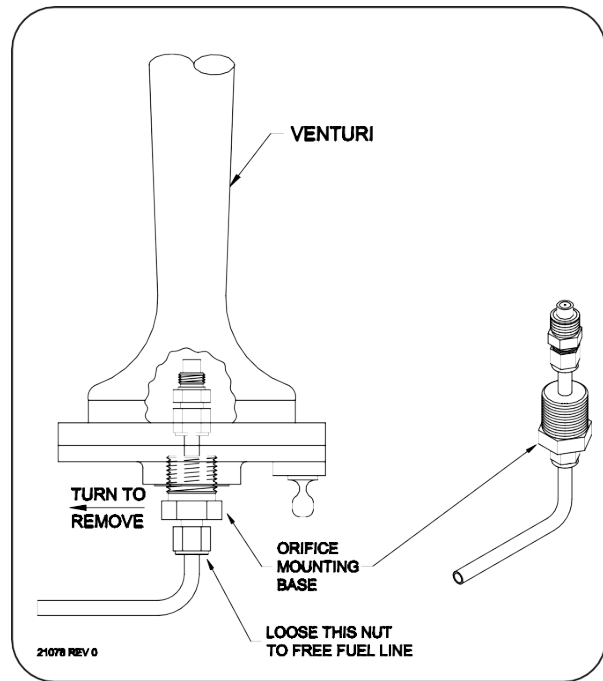

Figure 14 – Orifice Assembly Removal
2. Remove the orifice body from the assembly, see Figure 14.